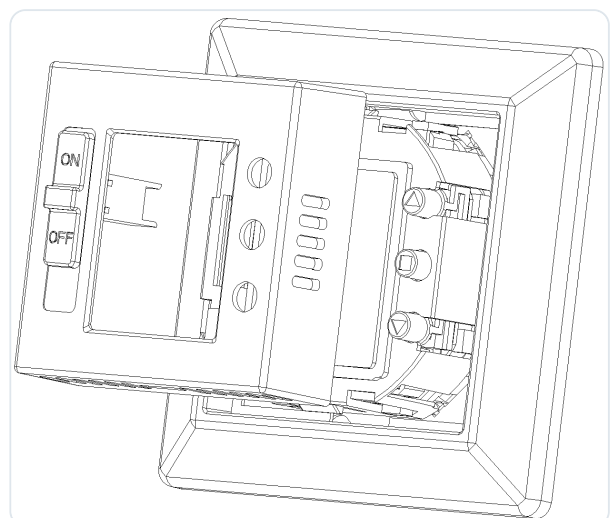

Fig. 2
- **Fig. 2:** Remove the thermostat cover and decorative panel by lifting it upwards.